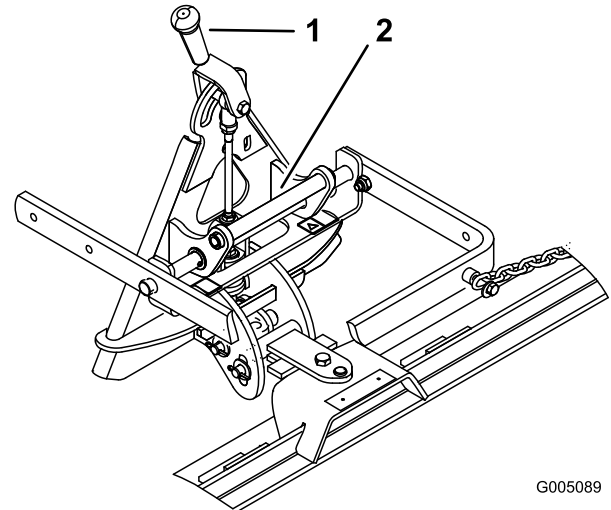

Figure 14
1. Pivot the locking lever to the left (Figure 14).
3. Grab the handle lift and tilt the attachment back onto the attachment (Figure 14).